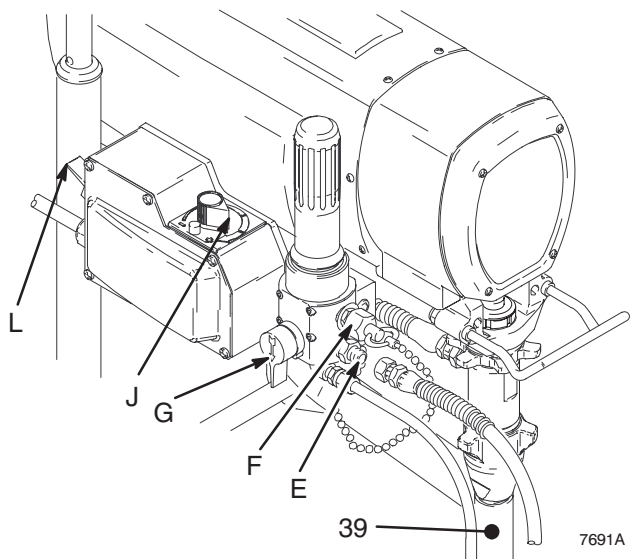

Fig. 4
**NOTE:** See Fig. 4 except where noted.
1. Put suction tube (39) into paint container.
2. Turn pressure adjusting knob (J) fully counter-clockwise to zero pressure.